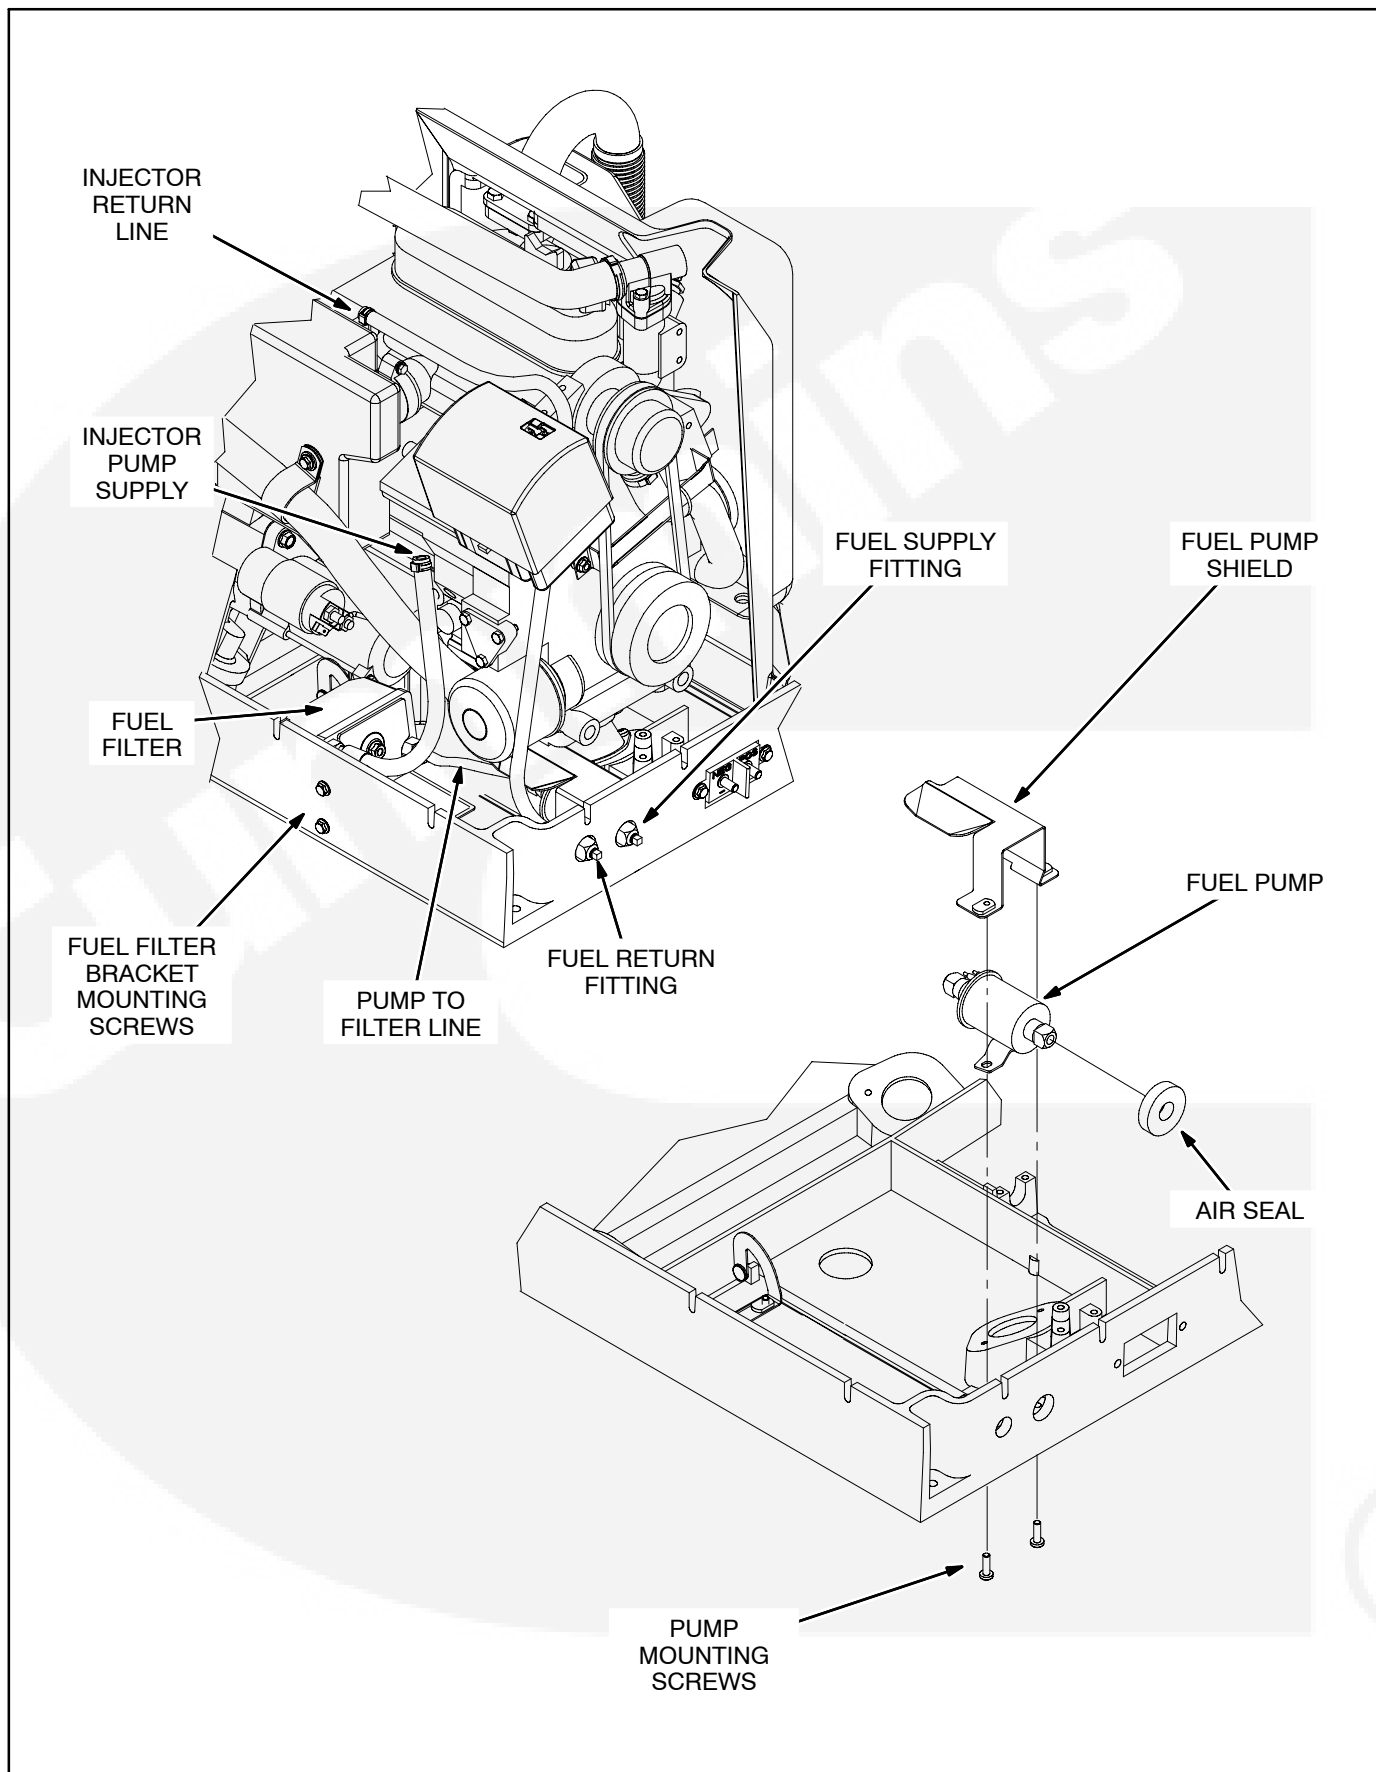

FIGURE 14-1. FUEL DELIVERY SYSTEM
Figure 14-1 shows two views of the fuel filter, pump and hoses for delivering fuel to and from the fuel injection system.
2. *If the genset is installed in the vehicle and does not have an access door in the front panel*, open the maintenance access door in the skid-base and remove the fuel filter and its mounting bracket (Figure 14-1).